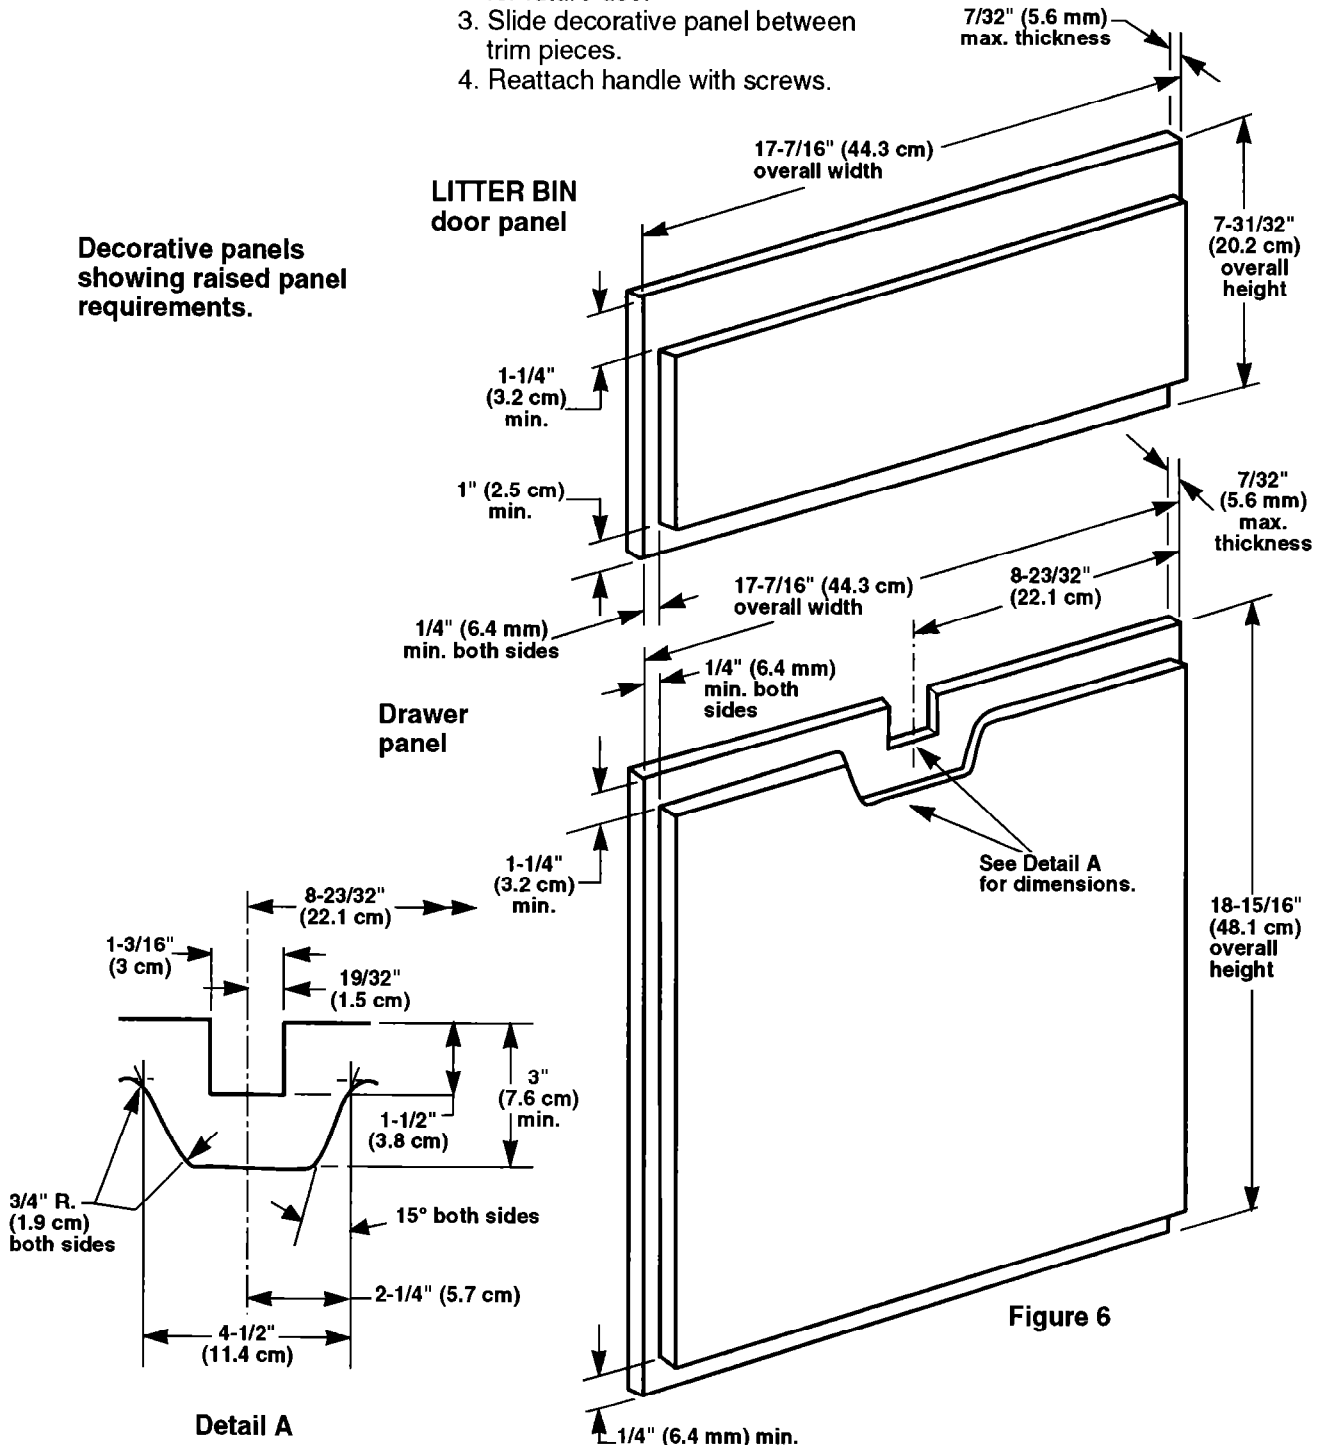

Figure 6
**Flat panel:** Must be  $7/32"$  (5.6 mm) thick. This is the thickness of standard  $1/4"$  paneling or plywood. See Figure 6.
See Figure 6.